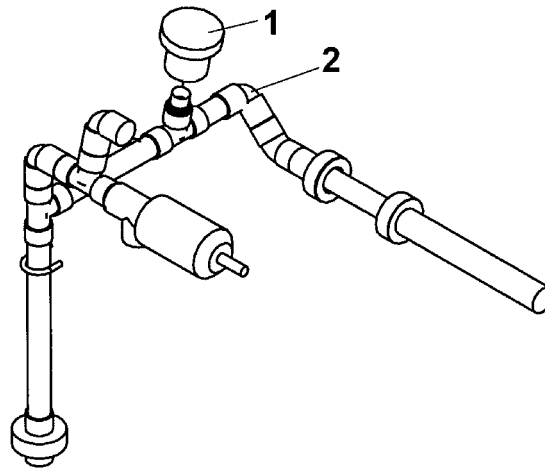

Figure 10. Vacuum Relief Valve.
2. Remove vacuum relief valve (1) by unthreading it from the piping (2). See Figure 10.
1. Refer to Figure 10 for this procedure section.
2. Thread the vacuum relief valve (1) onto the tank vent piping (2).